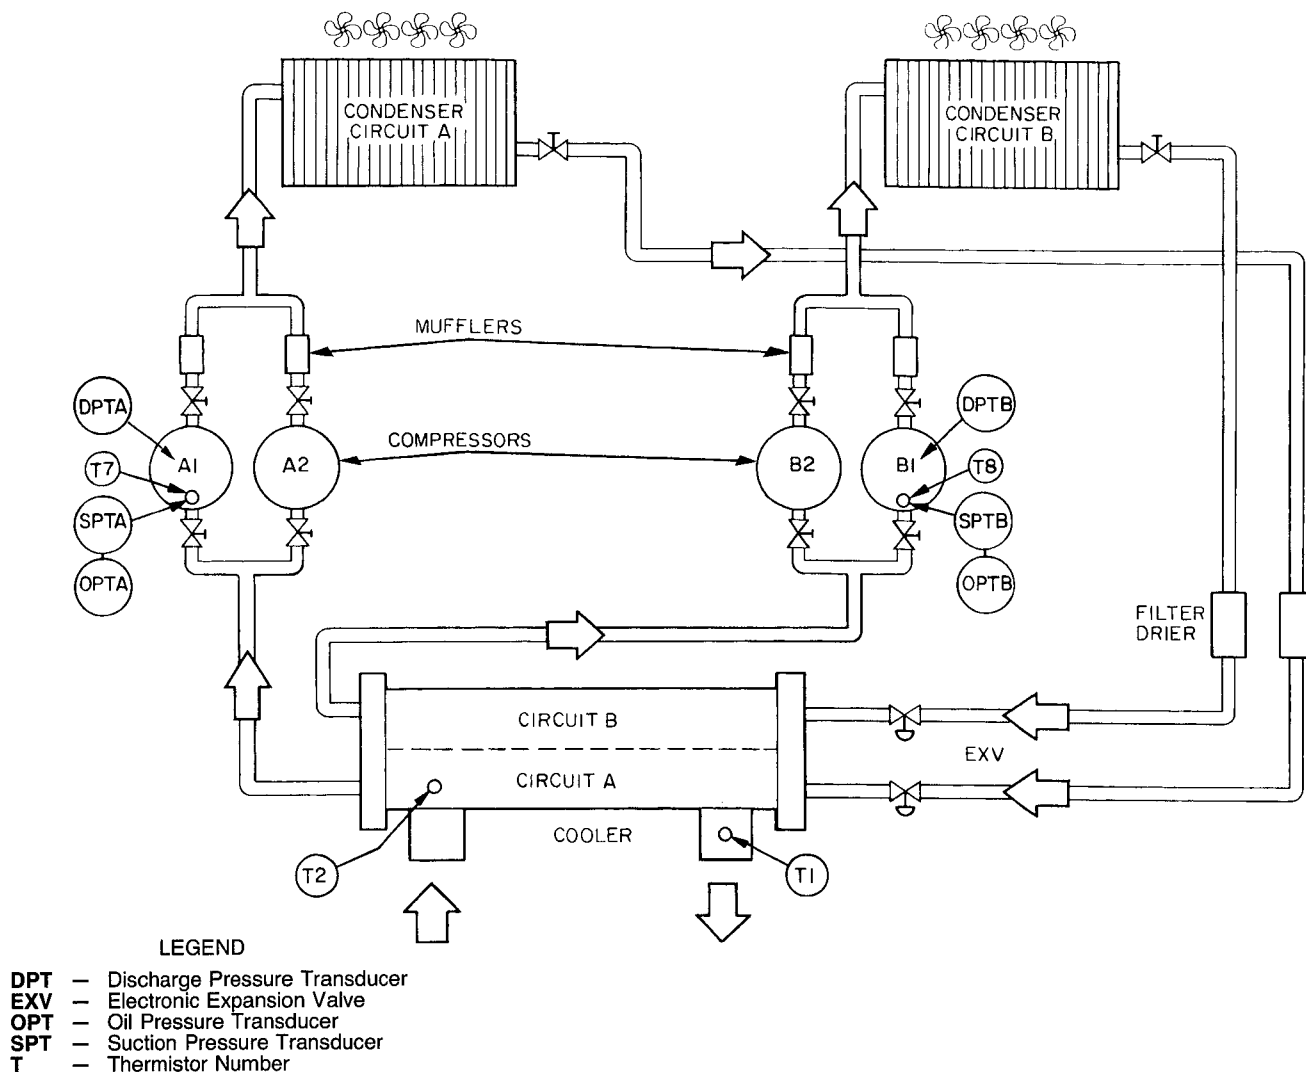
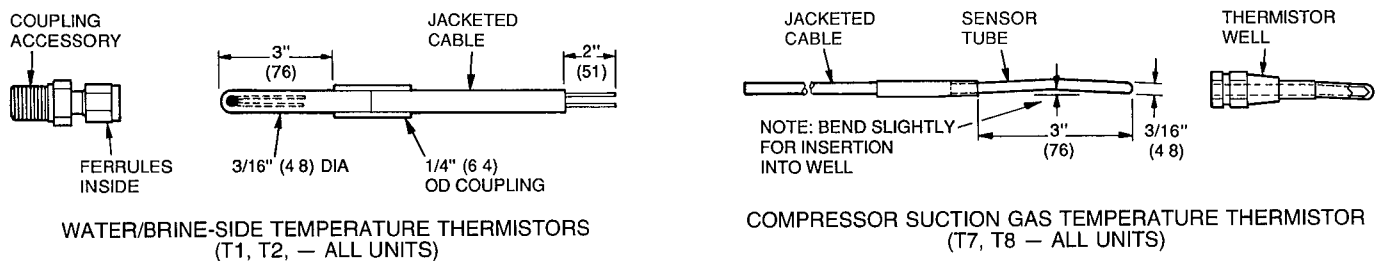

Fig. 14 — Thermistor and Pressure Transducer Locations
Fig. 16 – Thermistors
5. Check thermistors and pressure transducers that control EXV. Check thermistors and pressure transducers that control processor output voltage pulses to EXVs. See Fig. 14 for locations.
LOCATION — General location of thermistor sensors are shown in Fig. 14
Cooler Leaving Fluid Thermistor (T1) — T1 is located in leaving fluid nozzle. The probe is immersed directly in the fluid. All thermistor connections are made through a 1/4-in. coupling. See Fig. 16. Actual location is shown in Fig. 14 and 15.
Cooler Entering Fluid Thermistor (T2) — T2 is located in cooler shell in first baffle space near tube bundle. Thermistor connection is made through a 1/4-in. coupling. See Fig. 16. Actual location is shown in Fig. 14 and 15.
Compressor Suction Gas Temperature Thermistors (T7 and T8) — T7 and T8 are located in lead compressor in each circuit in suction passage between motor and cylinders, above oil pump. They are well-type thermistors. See Fig. 14 and 15.
Proceed as follows (see Fig. 16):
2. Apply pipe sealant to 1/4-in. NPT threads on replacement coupling and install in place of original. Do not use packing nut to tighten coupling. This damages ferrules (see Fig. 16).